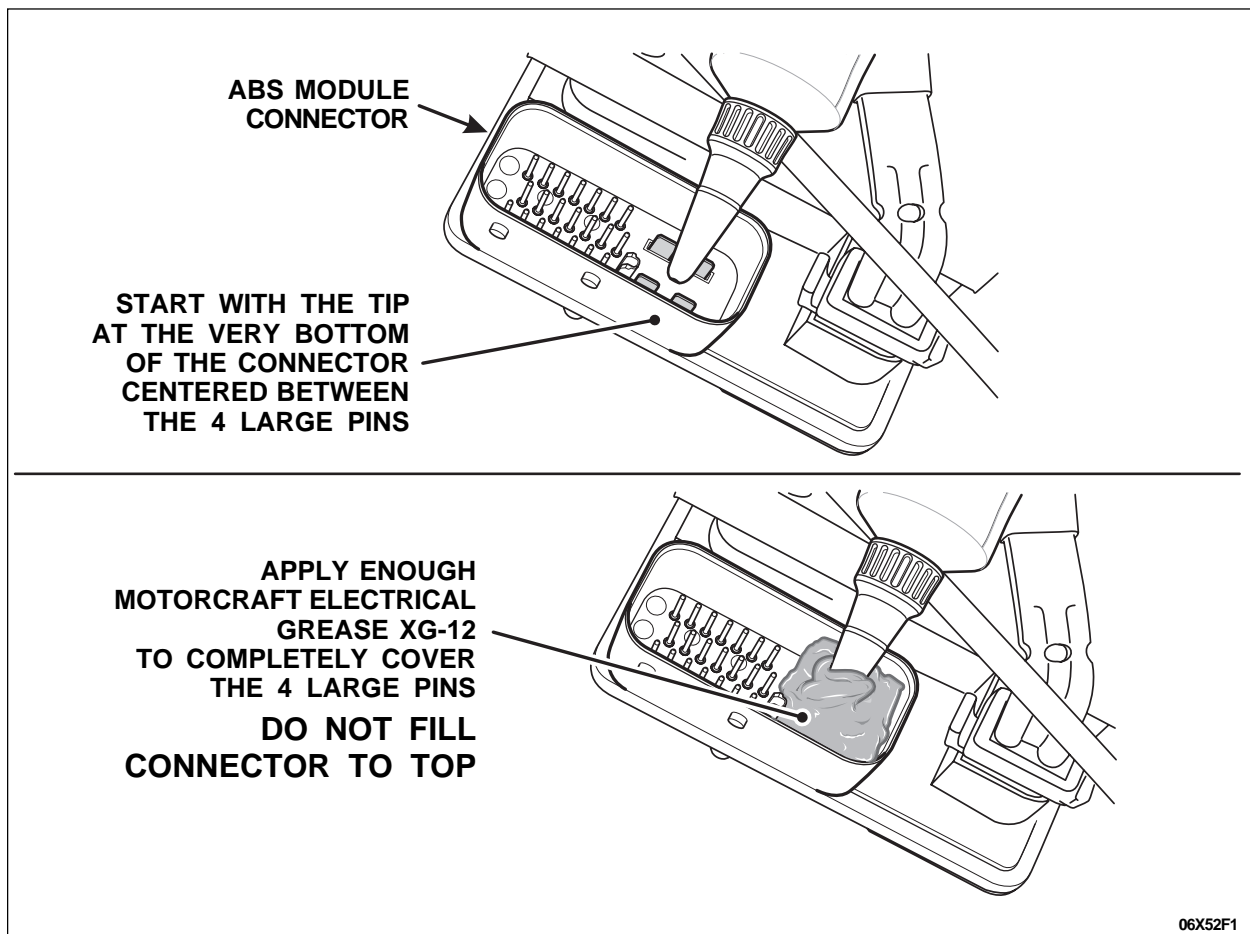

FIGURE 22
- Use ONLY Motorcraft Electrical Grease XG-12. See Figure 22.
- With the tip of the applicator tube snipped off, position the end of the tip between the 4 large flat pins at the bottom of the ABS module connector. Squeeze out enough grease to completely cover the 4 flat pins. See Figure 22. DO NOT spread the grease around the connector. Applying an excess amount of grease into the connector cavity will cause a “hydro lock” condition in which the connector will not be able to be seated fully or locked in place.